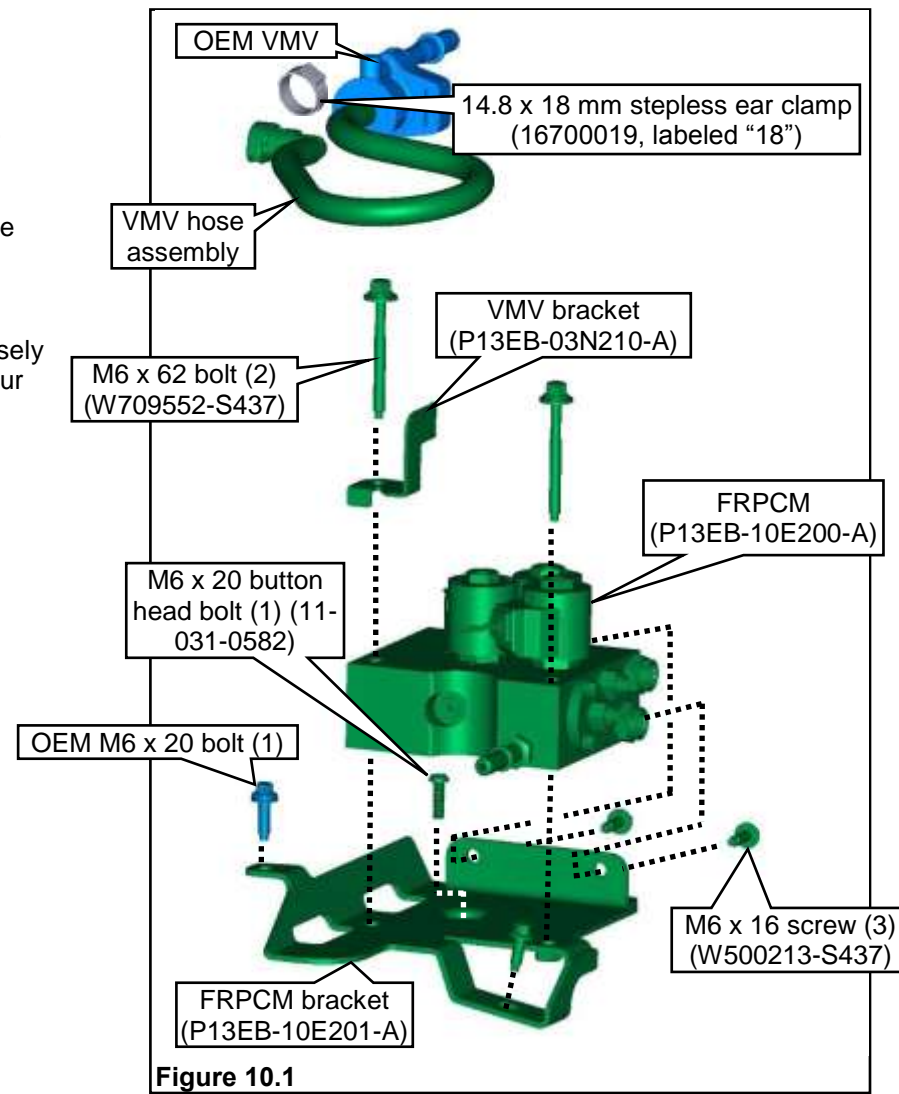

Figure 10.1
1. Assemble the SRM to the SRM bracket using four M6 socket-head capscrews and four M6 nuts. Tighten until snug. **Note:** Make sure that the SRM is oriented in the SRM bracket so that the electrical connector/harness faces downward for proper underhood harness routing. **Figure 10.1.**